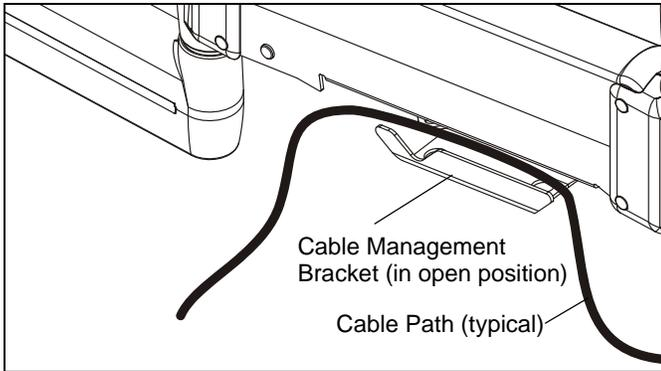

Figure 53
2. Carefully insert cables into bracket. (See Figure 53)